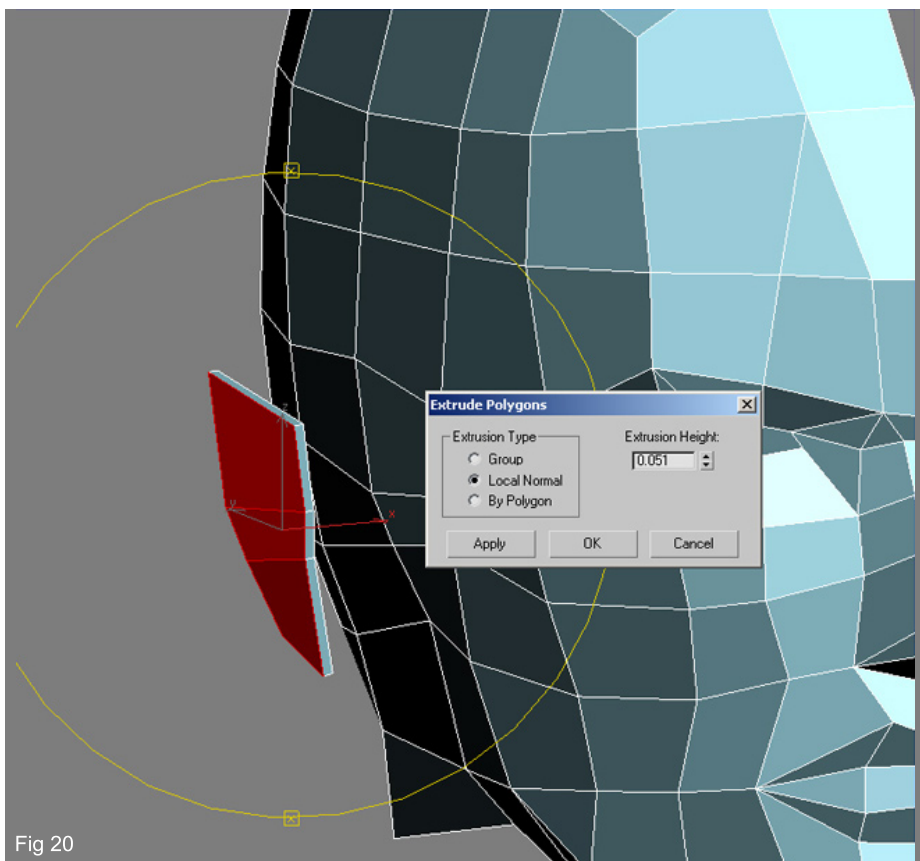

Fig 20
20. With these poly's still selected in sub-object mode click on "Extrude" and give the ear some volume by an amount similar to that seen in Fig20.